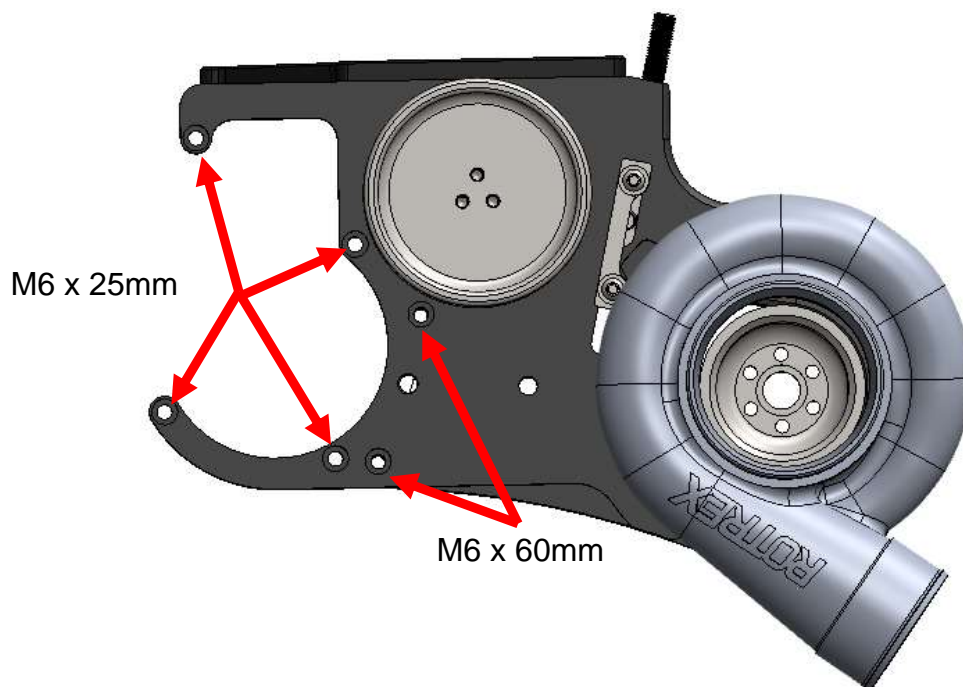

Figure 20
8. The M6 x 12mm bolt is used on the top plate of the bracket, refer to *Figure 20* below as reference for the M6 x 25mm and M6 x 60mm bolts locations. With 2-3 bolts, loosely attach the Main Bracket and Blower to the engine. Once loosely mounted, check all around the Blower for clearance issues (frame rail, fender well edge, AC lines, etc.). If the Blower is contacting anywhere, remove the 2-3 bolts and clearance the vehicle accordingly.